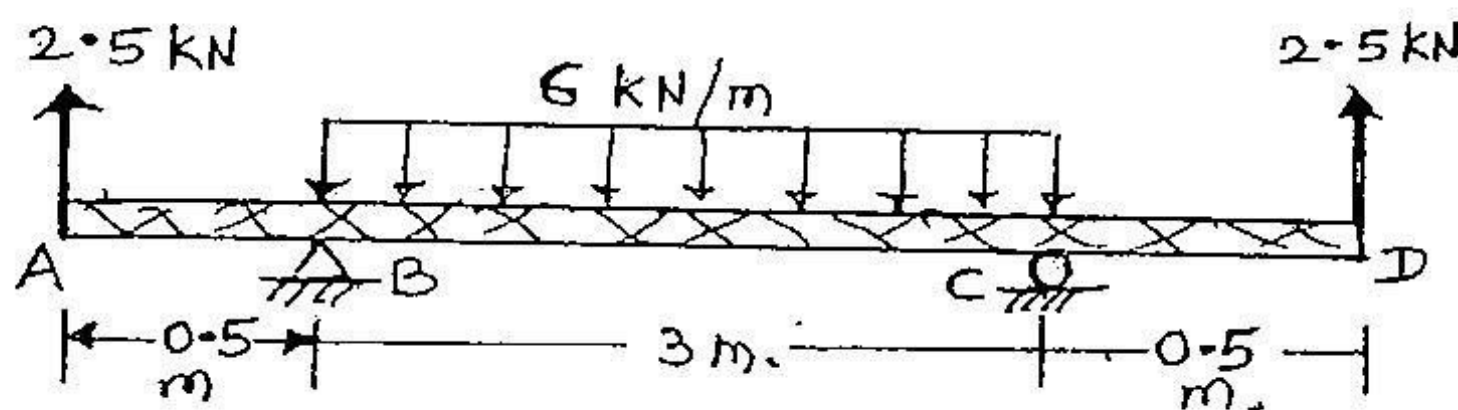

FIG. 7
Q. 3. a) Draw SFD & BMD for the timber beam in fig. 7.